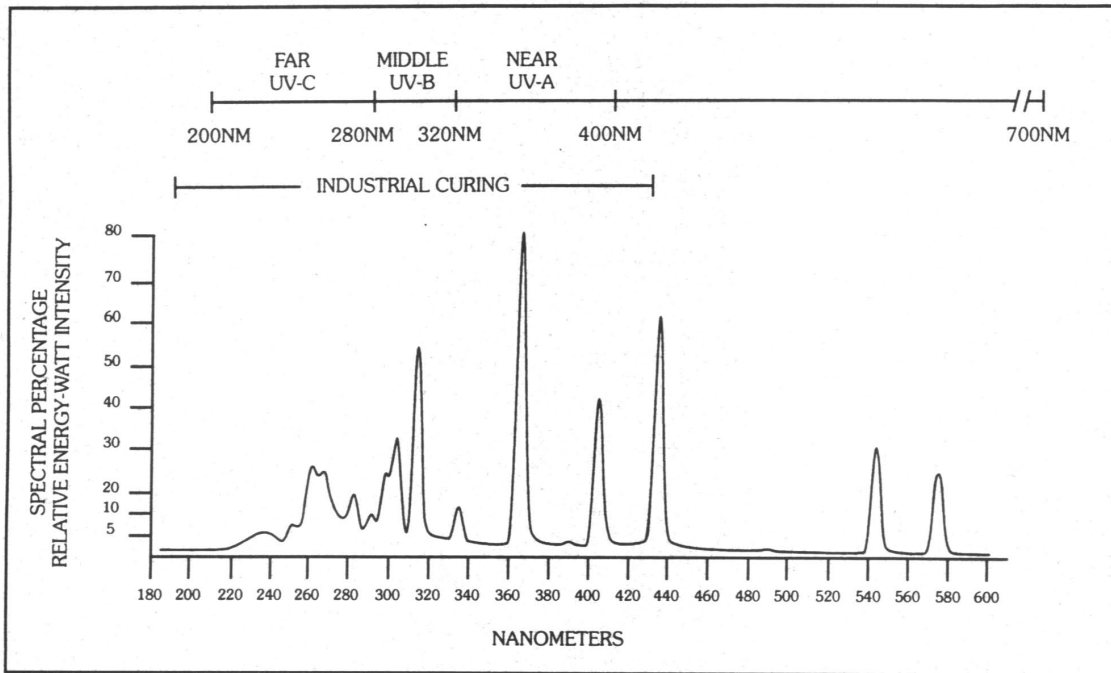

Figure 1
(D) The UV Spectrum – Once the basic concept of radiation has been understood, how ultraviolet radiation fits into the scheme of things, and what UV curing contains, then, one can easily understand the advantages and disadvantages of various light sources. UV curing lamps display the following characteristic in *Figure 1*.